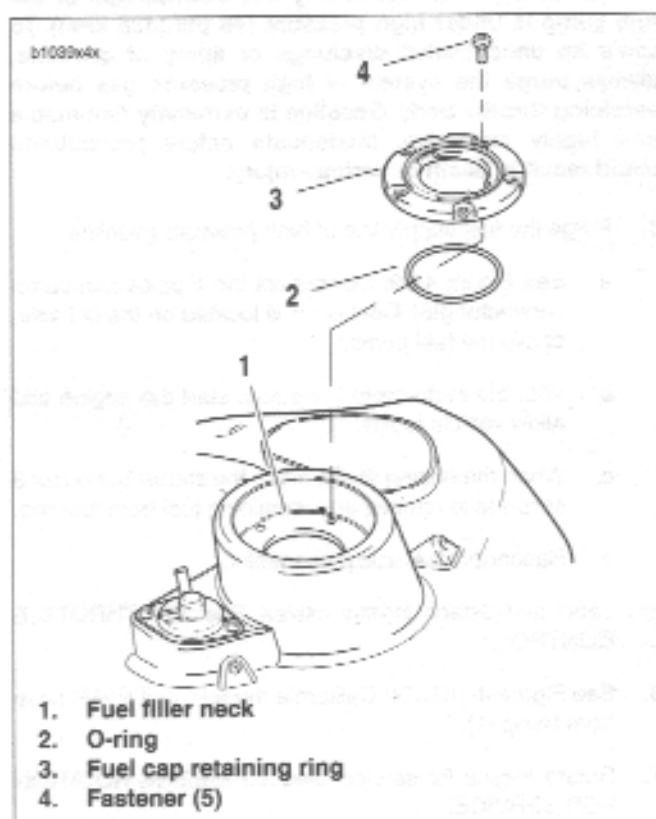

Figure 4-98.
3. See Figure 4-98. Remove fasteners (4) securing fuel cap retaining ring (3) to fuel filler neck (1).
4. Remove fuel cap retaining ring and o-ring (2). Discard o-ring.